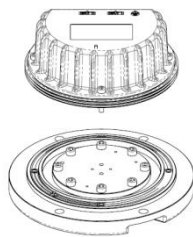
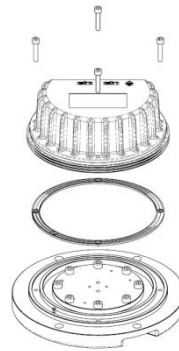

Figure 5-17
Figure 5-18
- Replace the light body gasket: Separate the inner cover and upper cover (Figure 5-17) and carefully clean the gasket. Put the new gasket into the gasket groove of the upper cover, the pin hole of the upper cover aims at the pin hole of the gasket and the thread hole of the upper cover aims at the corresponding hole of the gasket (Figure 5-18).